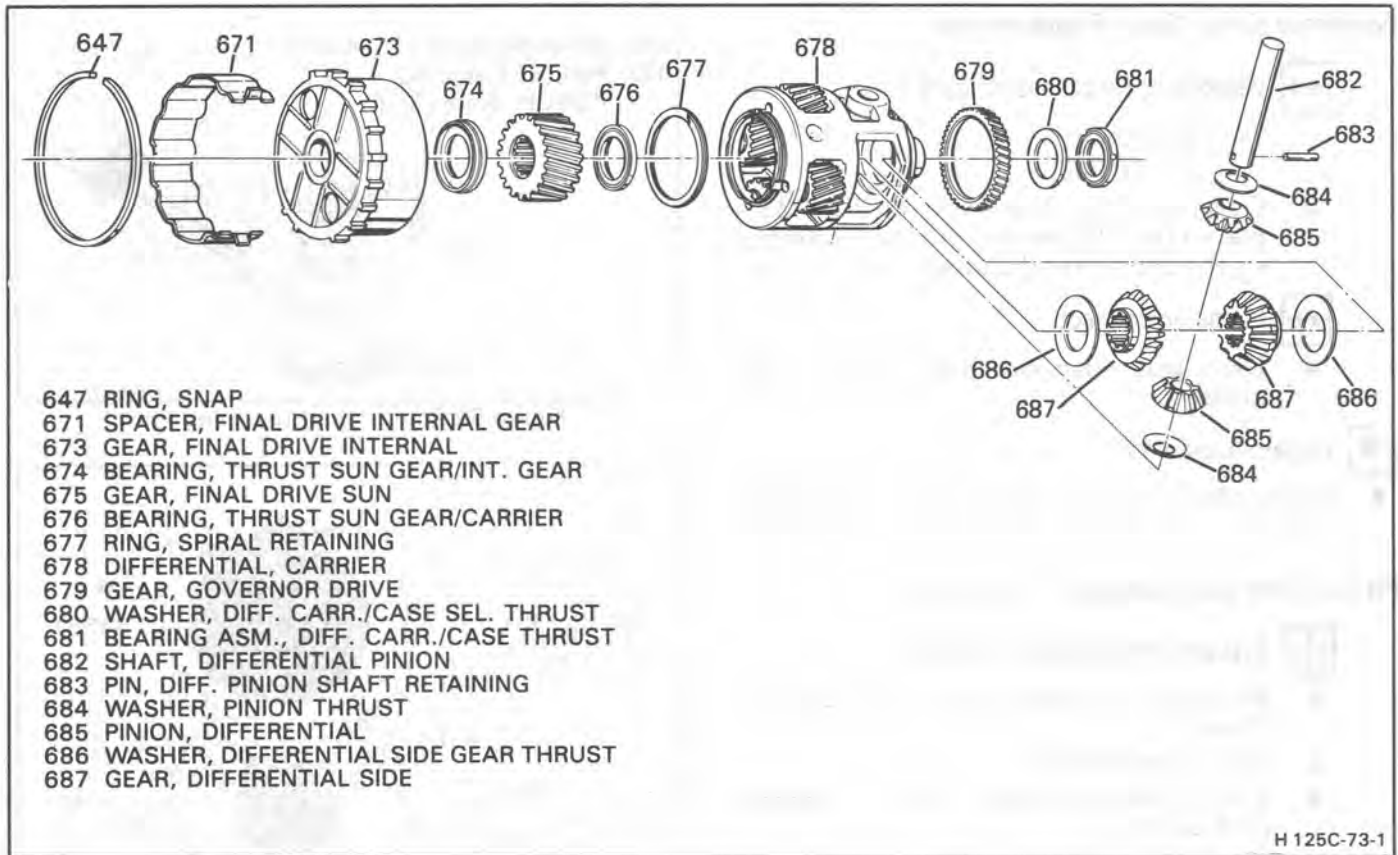

Figure 49 Final Drive Assembly
**Disassemble (Figure 49)**
1. Internal gear (673)
2. Thrust bearing (674)
3. Sun gear (675)
4. Thrust bearing (676)
**Inspect (Figures 49 and 50)**
- Final drive pinions (678) for damage
### 🔍 Inspect (Figure 49)
### ⚡ Disassemble (Figures 49 and 52)
### ⚡ Assemble (Figure 49)
### → Install or Connect (Figures 49 and 53)
### → Install or Connect (Figure 49)